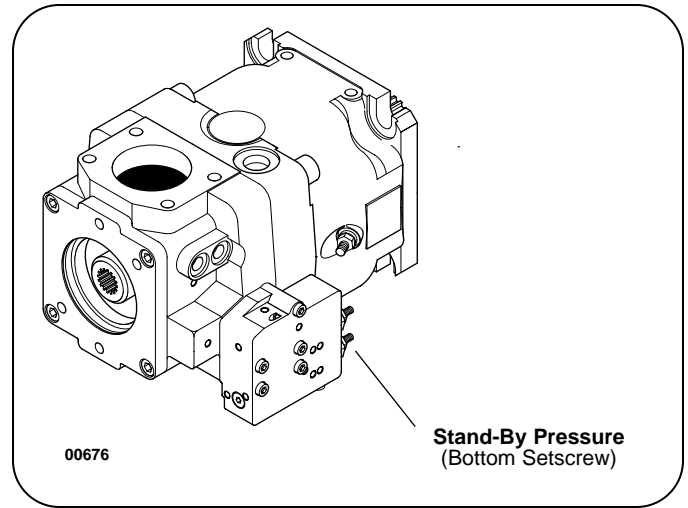

Figure 5: Implement Pump Stand-By Pressure Adjustment
8. Use the 13mm wrench to loosen the jam nut on the stand-by pressure adjustment setscrew. See Figure 5.